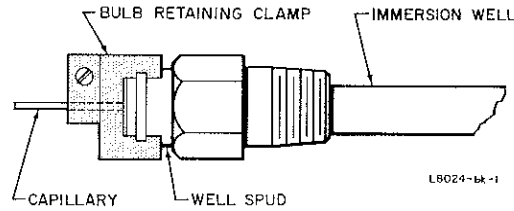

Fig. 7—Immersion well.
4. Fit bulb retaining clamp over immersion well flange and capillary tubing, and tighten screw, as shown in Fig. 7.